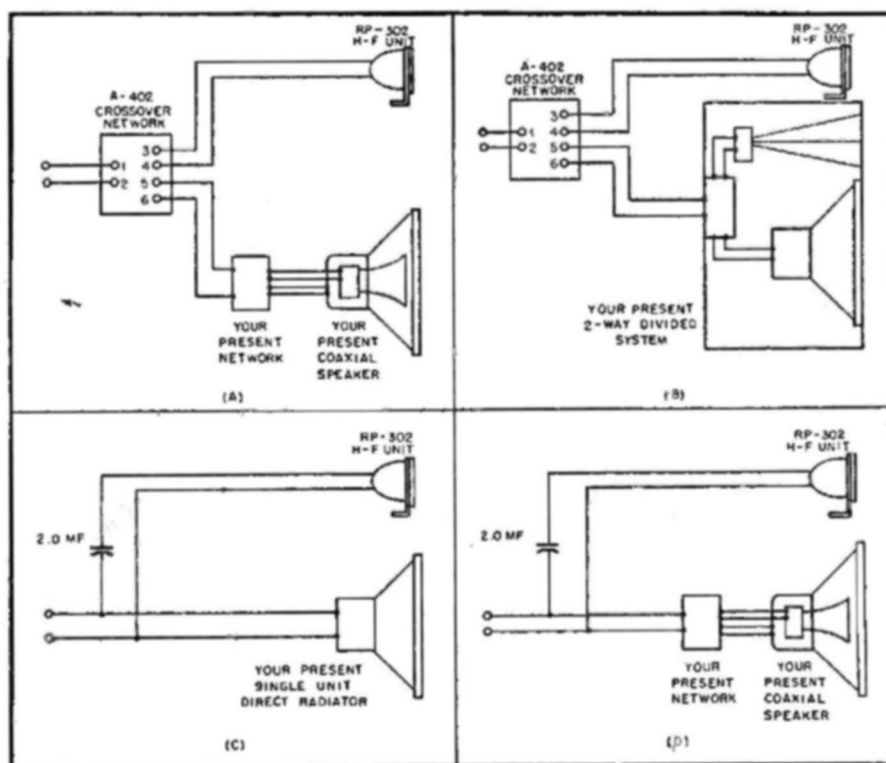

Fig. 5. Typical methods of connecting the super-tweeter—(A) and (B), using the associated network; (C) and (D), using a series capacitor.
1. Eliminate highs above 4000 cps from the existing loudspeaker or system electrically by means of a crossover network such as the A-402; feed the RP-302 from the crossover network, so that it alone is reproducing in the range above 4000 cps. See Fig. 5, (A) and (B). (This method has outstanding advantages since it eliminates rough and distorted high-end acoustic output from the original equipment as well as improving the efficiency and extending the range of the h-f response. If you think your present coaxial or divided two-way system is as good as it can be, try this.)